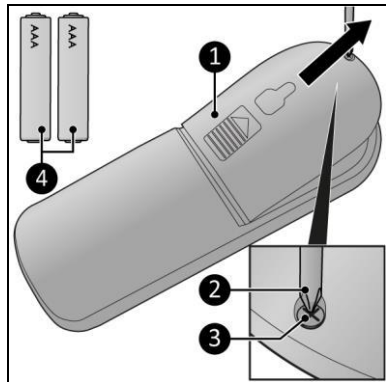

Figure 13
1. Remove the screw (Figure 13, pos. 3) with a Phillips screwdriver (Figure 13, pos. 2).
2. Remove the cover (Figure 13, pos. 1).
4. Insert two batteries (AAA 1.5 V) (Figure 13, pos. 4) as indicated in the battery compartment. Make sure to insert the batteries correctly.
5. Remove the batteries from the remote control (Figure 13).